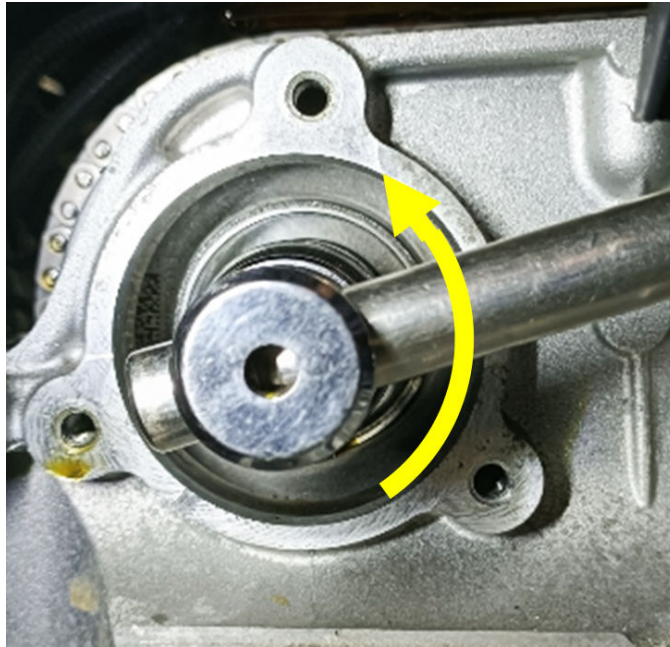

Fig. 9
18. Loosen the **INTAKE** camshaft adjuster screw using a 22 mm socket Fig. 9. Rotate the **EXHAUST** camshaft (using the camshaft adjuster screw) until you can insert special tool **2063500090** Fig. 10 and Fig. 11.